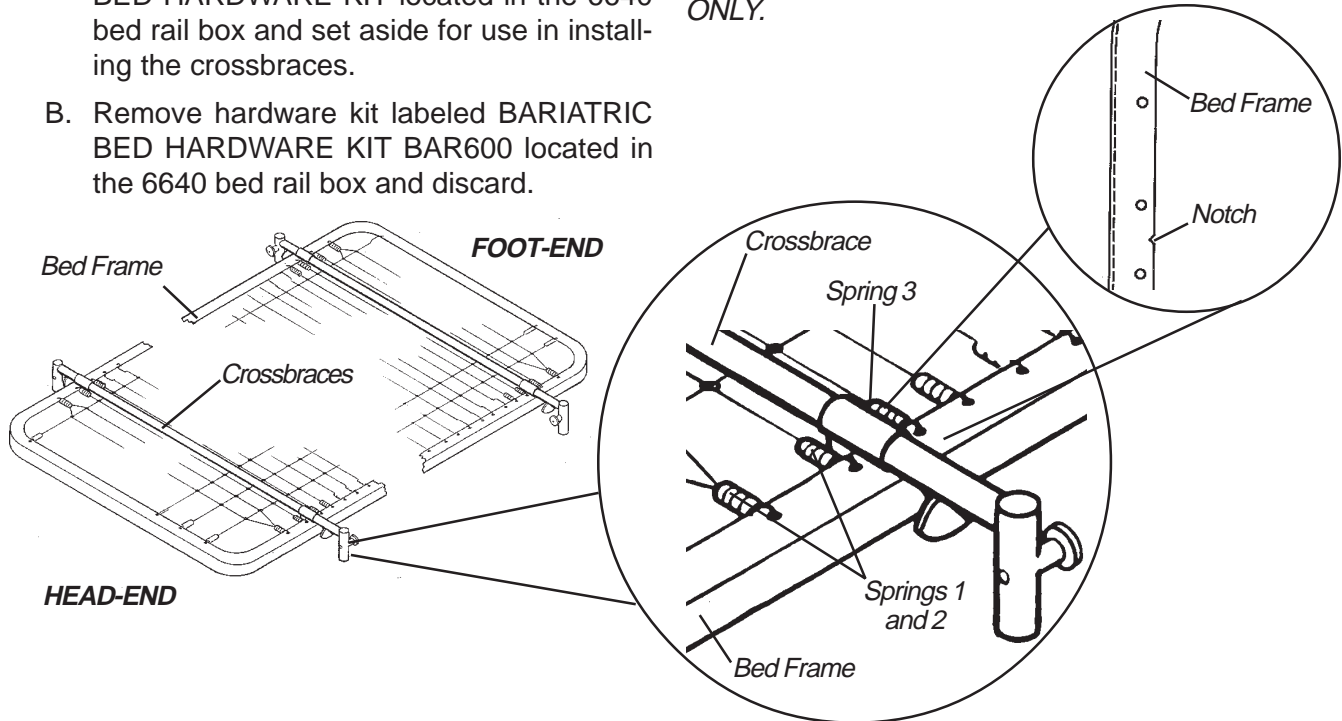

FIGURE 10 - OPTIONAL BED RAILS - ALL MODELS EXCEPT THE BARIATRIC BED
**All Models EXCEPT The Bariatric Bed (FIGURE 10)**
2. If applicable, place the crossbraces of the ordered bed rail in the notches between the SECOND AND THIRD springs at both the HEAD AND FOOT ENDS of the bed frame as shown in FIGURE 10.